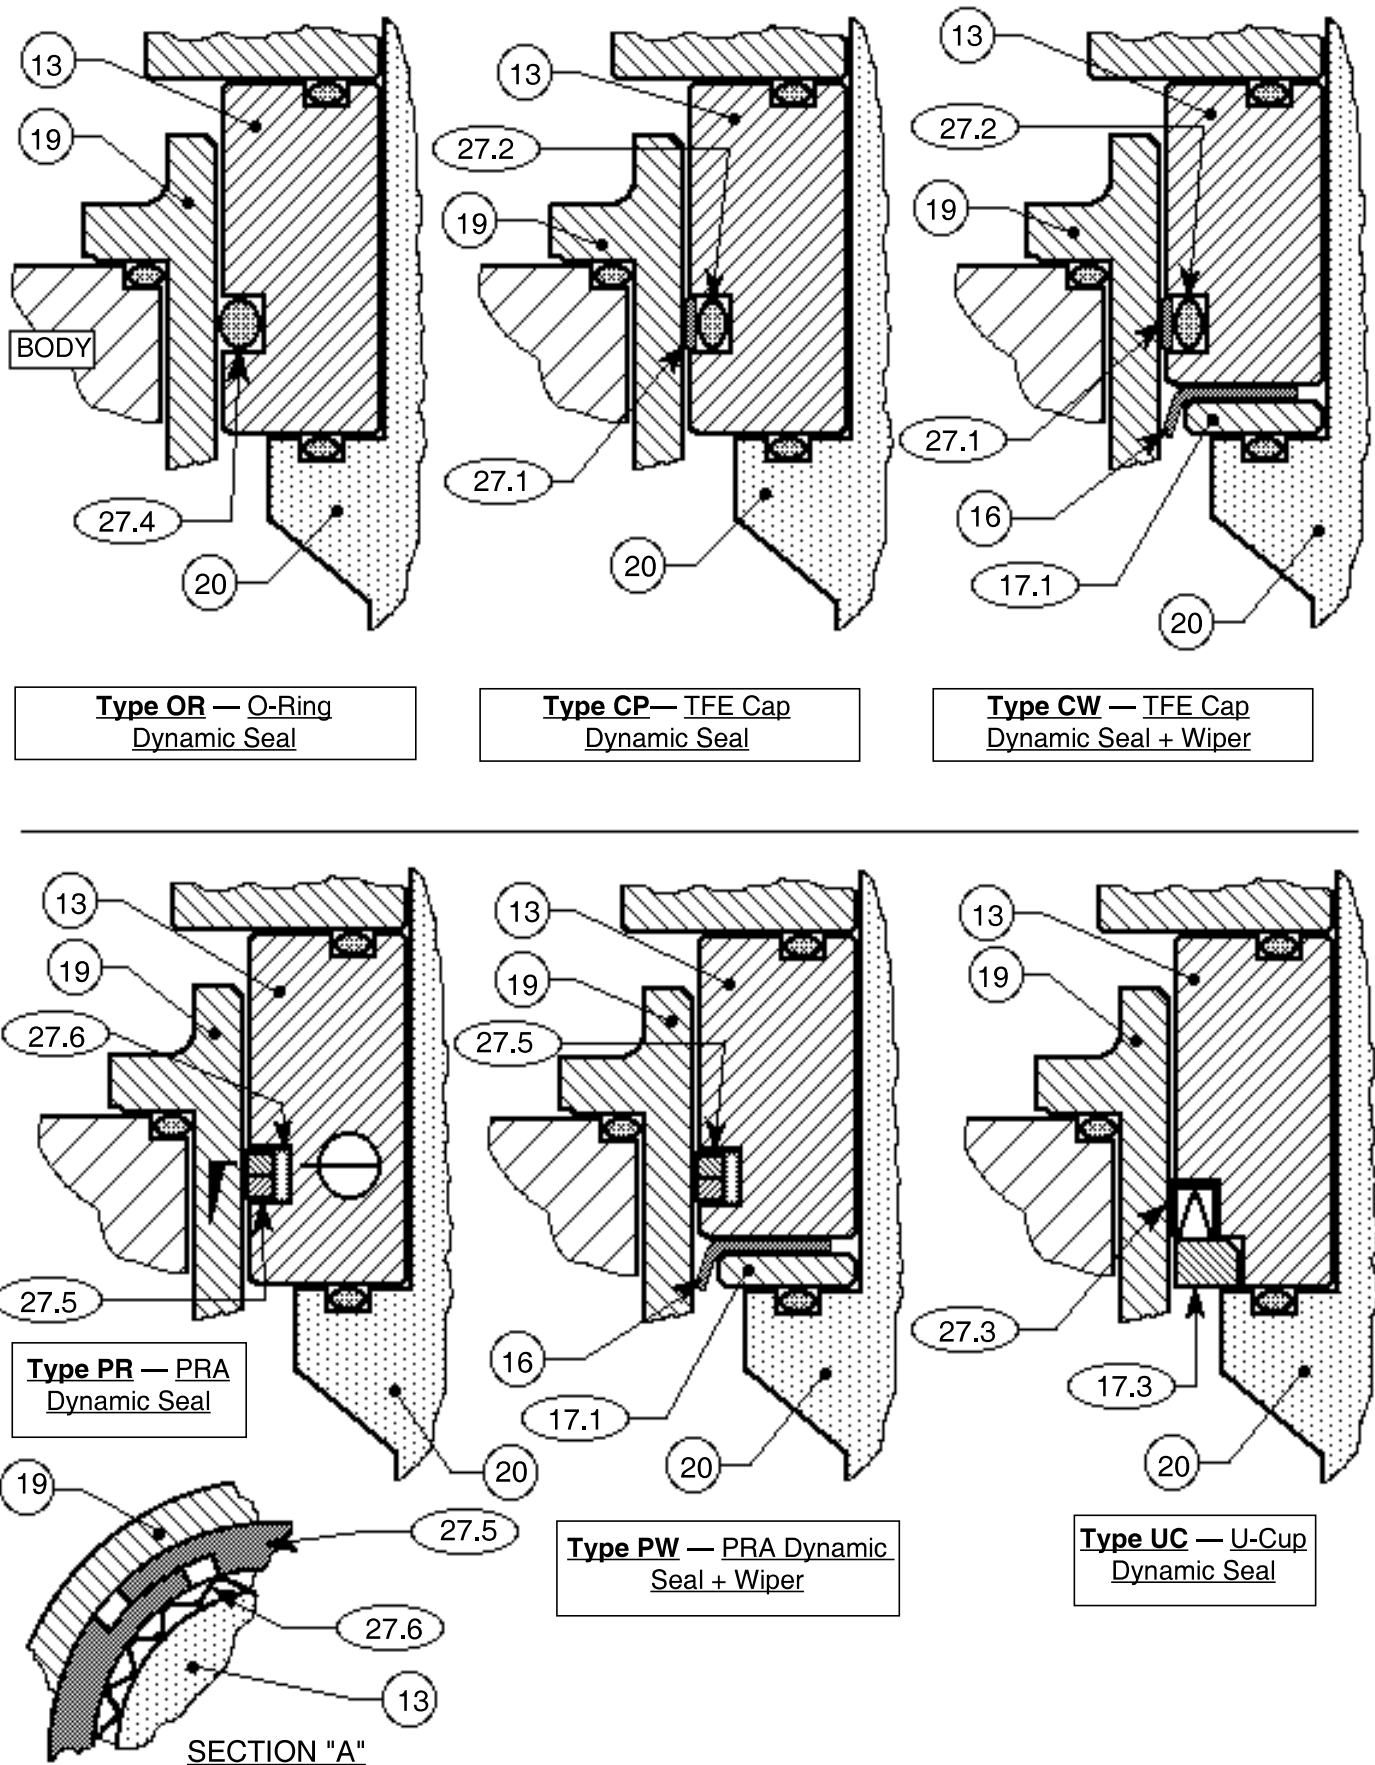
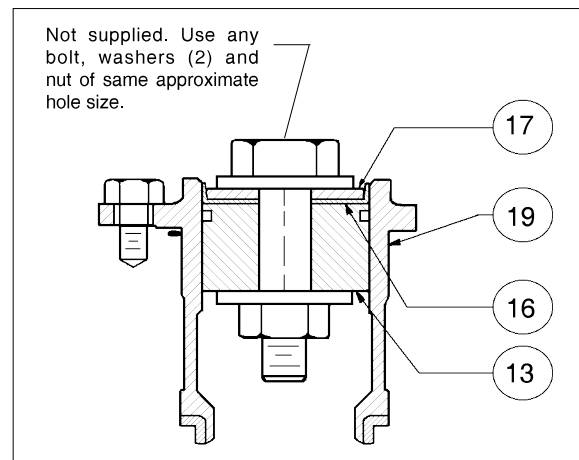

Figure 1: Dynamic Side Seals
Figure 4
A detailed view of the dynamic side seal parts is shown in Figure 1 on the next page.
1. When replacing the optional wiper seal (16), the replacement wiper seal (16) is “pre-formed”. It will, however, require reforming. Reform the wiper seal (16) by pressing the temporary assembly parts into the cage (19) backwards as shown in Figure 4. The wiper seal (16) is best left in this position overnight, but a minimum of two (2) hours prior to reassembly.
2. After forming the wiper seal, remove parts (13, 16, 17) from cage (19) and disassemble the temporary assembly of Step 1. above.
3. Installation of dynamic side seal (27) (See Figure 1):
1. Position u-cup seal (27.3) over lower circumference of piston-guide bearing (13). Ensure that the u-cup seal (27.3) is oriented with the center-open-downwards as shown in Figure 1, as the u-cup seal (27.3) depends upon the P1-Inlet Pressure to pressure activate the seal for proper sealing action.
2. Position piston-guide bearing (13) over and into upper end of cage (19)